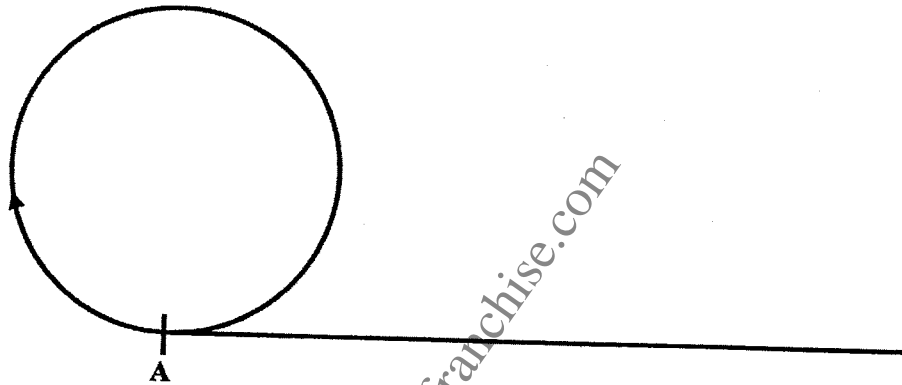

Fig. 5
- (b) Figure 5 shows the position of a circle on a straight line. Trace the locus of a point A on the circle of radius 30 mm as it rolls a long the straight line with out slipping. (15 marks)